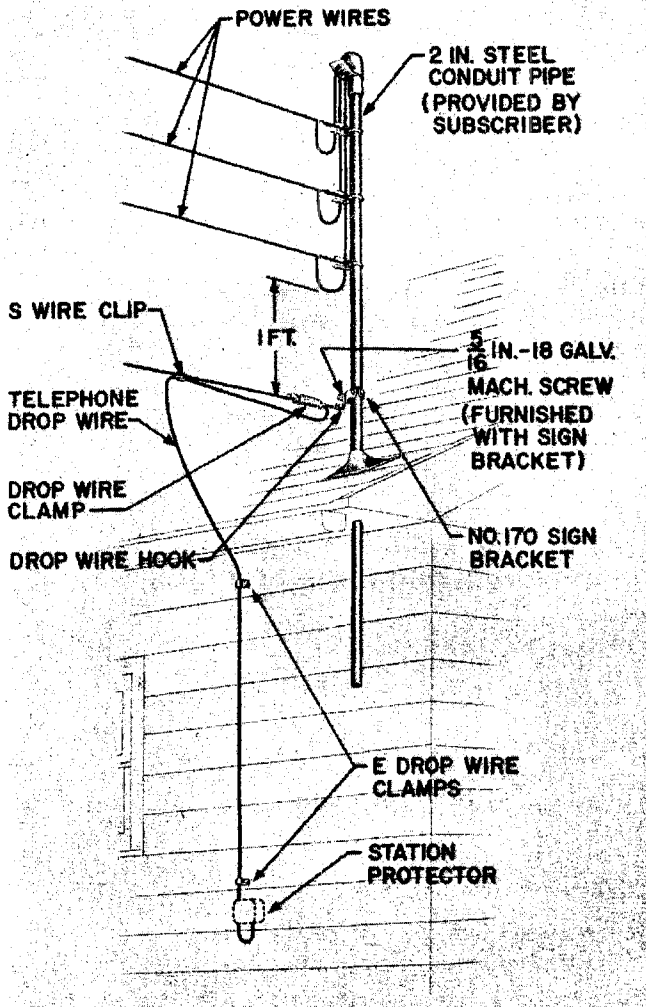

Fig. 10 - Drop Wire Attached to Power Fixture
6.01 Fig. 10 through 15 show types of clearance fixtures commonly provided by subscribers and the recommended methods of making drop wire attachment. Where other types of fixtures are provided and different methods of making drop wire attachments are required, local instructions should be issued.